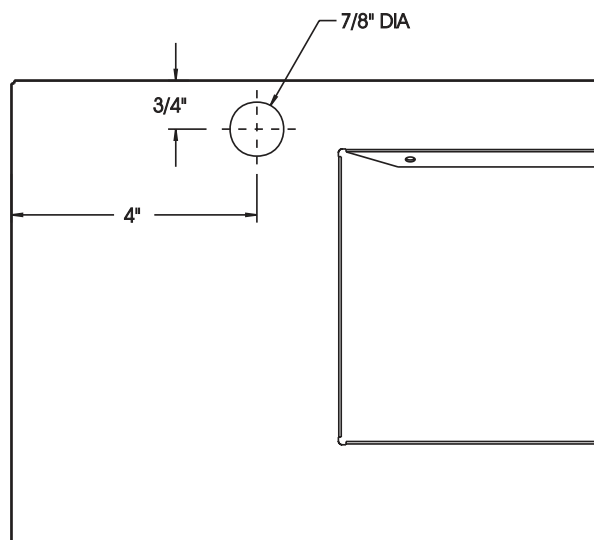
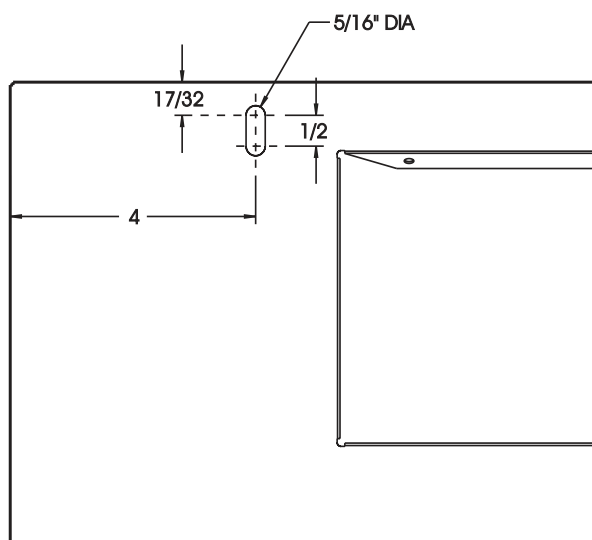

Figure 1
Figure 2
2. Place front panel face-up on a non-abrasive surface. When facing the front panel, drill either a 7/8" diameter hole or 5/16" slot into upper, left corner of front panel. Refer to Figure 1 for hole location or Figure 2 for slot location.